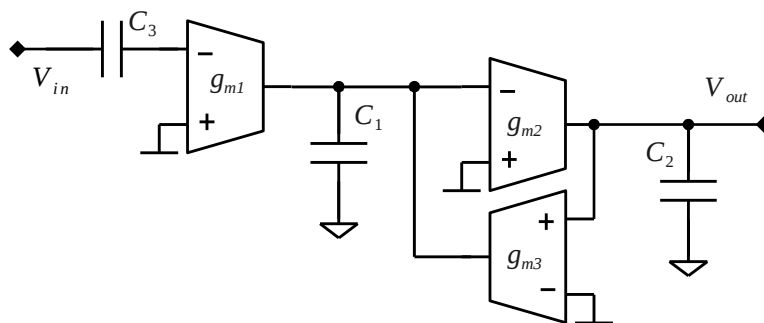

Figure 7.25.1: A Gm-C circuit.
- Determine the transfer function of the Gm-C circuit shown in Figure 7.25.1.